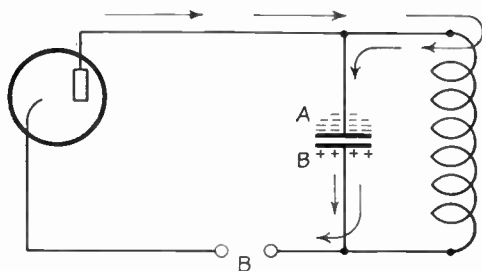

FIG. 290. Tank coil opposes surge and charges the condenser.
electrons which cannot flow through the coil easily flow instead into side *A* of the tank tuning condenser (see Fig. 290). This makes side *A* negative and drives electrons off side *B* to the B battery.
3. When plate *A* has a heavy negative charge, as in Fig. 290, what will be the charge on the plate? What charge does the plate produce on the grid? What effect will the grid now have upon the plate current?